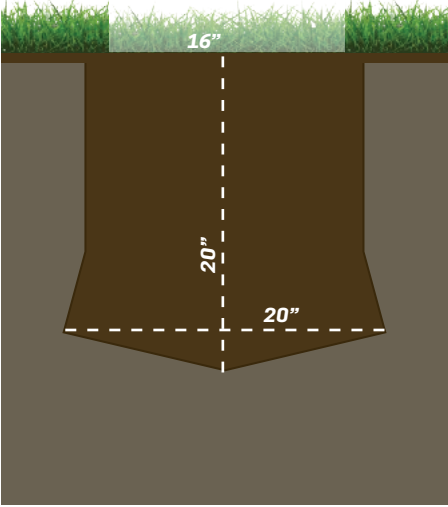

FIGURE 1
2. **(FIGURE 1)** Mark out a 16” diameter to begin digging (Center point of the Spigot **(30)**).
3. **(FIGURE 1)** Begin to dig a minimum depth of 20”
4. **(FIGURE 1)** Begin to “Bell out” the bottem end of the hole to roughly 20” in diamter.